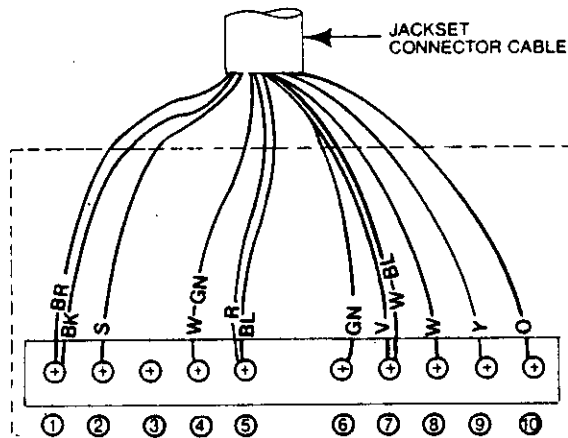

FIGURE 5 – JACKSET CONNECTIONS TO EHIU
3.1.2 The spade-tip connectors are to be connected to the terminal strip connectors on the EHIU PCB as shown in Figure 5.